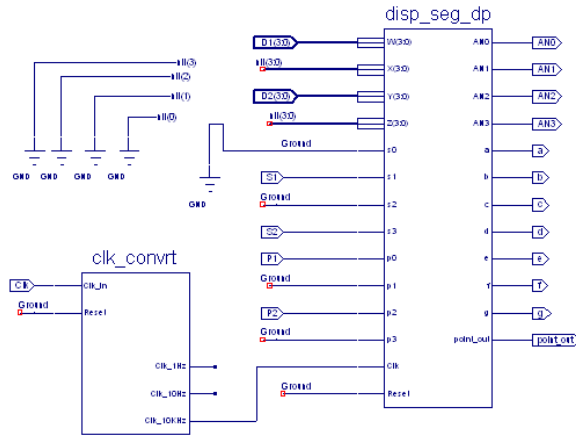

Figure 15
25. Now create a schematic file similar to Figure 15.